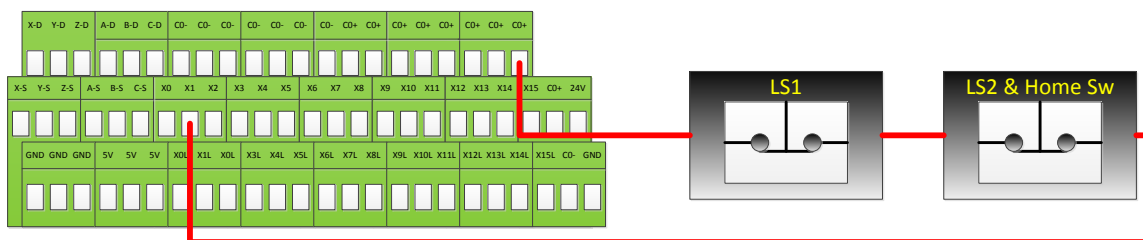

FIGURE 20 LIMIT SWITCHES IN SERIES
2. Wire the two switches normally closed in series as shown in Figure 20.